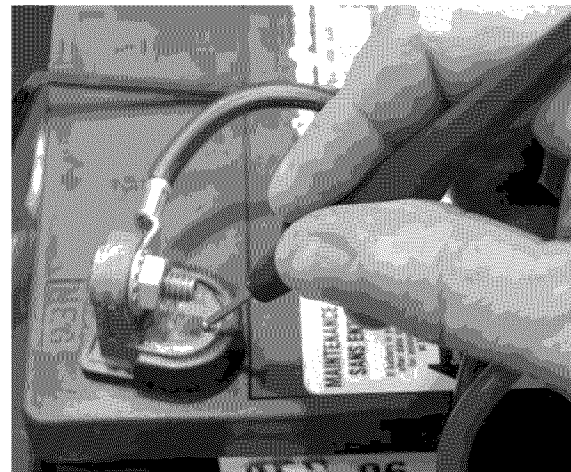

Figure 7.47
- This text will address the negative side to begin with. Bad grounds are responsible for as many electrical failures as the positive side of the system, yet the ground side is frequently neglected by technicians. See Figure 7.47.